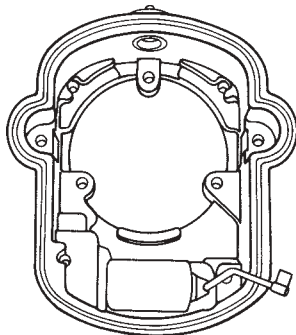

Figure 7.11
- A. Assemble the condenser into the distributor housing, being sure to rotate the condenser wire the same rotation as the condenser is tightened in the housing. (See Figure 7.11.)